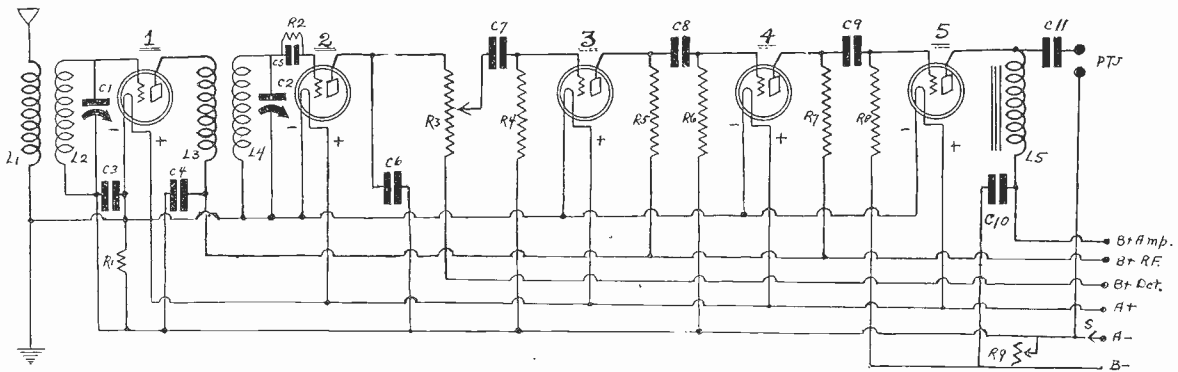

FIG. 1
It will be observed that the applied plate voltage is not the same for all the tubes when the filaments are connected in series, even when the plate returns are connected to the same point. Thus in Fig. 1 the last tube receives the full voltage of the eliminator, but the next tube forward receives 5 volts less, which is the voltage drop in the filament of the last tube. The detector receives ten volts less, or the amount of the drop in the two succeeding filaments. The two radio frequency tubes receive 15 and 20 volts less than the output voltage of the filter. These voltages for the first three tubes hold when the resistance  $r$  is zero. When this has a high value the drop in it should be subtracted from each case from the output of the filter. Suppose the drop in  $r$  is 50 volts and the eliminator output voltage is 180 volts. The effective voltage on the plate of the first tube would be 180 less 20 less 50, or 110 volts. The second tube would have 115 and the third tube 120 volts. The first audio frequency tube would have 175 volts and the last the full 180 volts. These differences should be taken into account when selecting the value of the resistance  $r$  and the grid bias values of the different tubes.
Let us look at Pete's installation. Nothing like a thorough examination of the patient so that a sensible diagnosis can be made. His receiver has C batteries totally eliminated. The voltage drop in a filament resistor is used for the one-volt bias on the radio frequency tube (1) and on the first and second audio tubes (3) and (4). The detector tube is a special detector—in the high  $\mu$  class, therefore—and takes a zero grid bias, that is, has grid return made to minus filament (not minus A, which is a battery lead). The final tube is a 112, and the negative grid bias is obtained through the drop in a variable resistor connected from B minus to A minus. The diagram of Pete's set is shown in Fig. 1. Note the volume control, a 100,000-ohm Carter potentiometer in the detector plate lead.